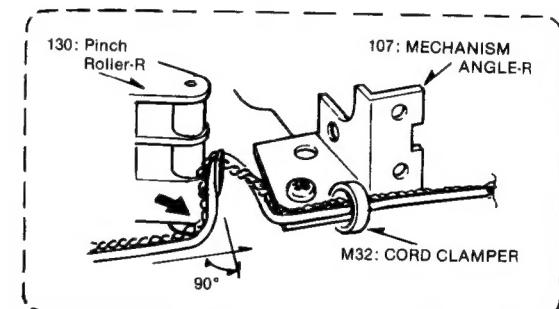

Fig. 2
- Trace the record/playback head lead-wire as follows (Refer to Fig. 2.):
- At this time, hook the head wire to the clamper of the pinch roller R, and press the head wire in the direction of the arrow as shown in Fig. 2 so that it is bent approximately 90 degrees. Then secure the wire on the mechanism unit using a cord clamper.